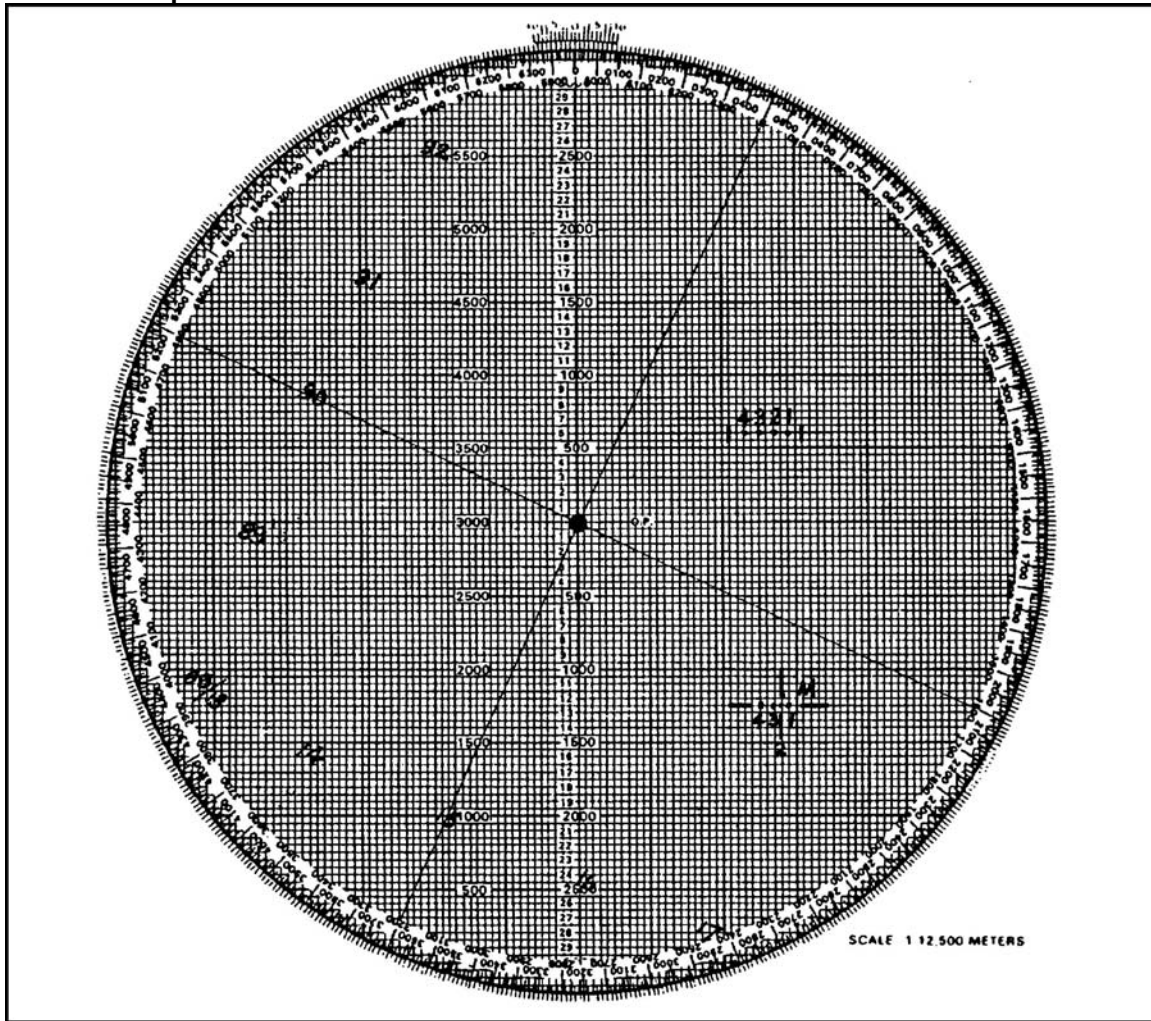

Figure 6. Alignment of mortars and impact points.
- (7) At this point, the computer has only to determine the deflection for No. 1, 2, and 3 mortars, complete the subsequent command, and issue it to the mortar section (Figure 6). To do this, the computer aligns the No. 3, 2, and 1 mortars with their start points on the target and reads the deflection for each mortar. During this procedure, the computer should also determine the range for each mortar to its start point. If there is a range difference of 25 meters or more, the elevation for that mortar must reflect the range difference.